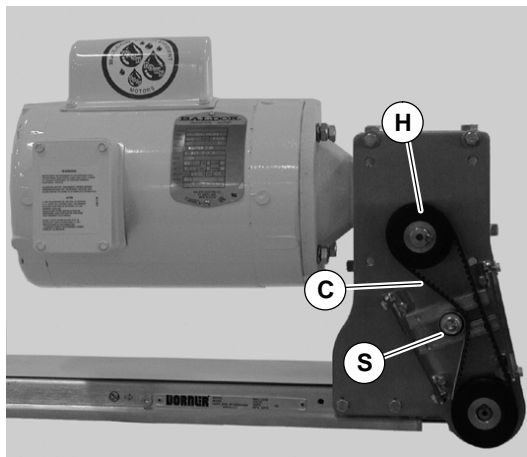

Figure 17
- Loosen tensioner (S of Figure 17).